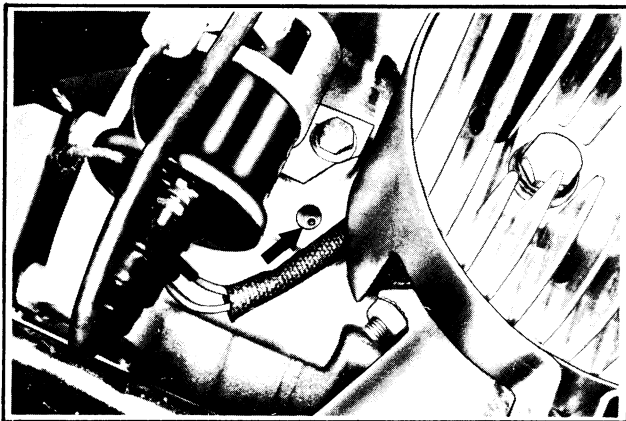

Figure 8-19. Flywheel Timing Marks
Two timing marks are located on outside of flywheel and are visible through hole in fan housing located next to spark coil. See Figure 8-19. Each mark is 25° before piston top center, one for forward engine operation and the other for reverse engine operation. Check and adjust ignition timing in forward and reverse running direction as follows:
2. Forward Timing: Turn engine crankshaft clockwise in forward operating direction until **forward** mark (25° BTC) appears in center of hole in fan housing as shown in Figure 8-19. This is the point at which circuit breaker contact should open.
6. A strobe timing light can be used to check ignition timing while engine is operating at governed speed. Raise left rear wheel with jack or suitable blocking so it can turn freely. See LIFTING INSTRUCTIONS, Section 1. Run engine at about 2000 RPM in forward direction. Forward timing mark should appear in center of hole in fan housing (strobe light flashing on timing mark to stop motion). Repeat with engine running reverse direction. Reverse timing mark should be within limits of hole in fan housing. See Figure 8-19.